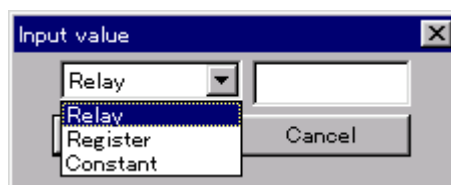

Figure 20-2 Set Value Searching Dialog Box
2. When the dialog shown in Figure 20-2 appears, enter the type of the value and the set value to be searched and click the [OK] button.